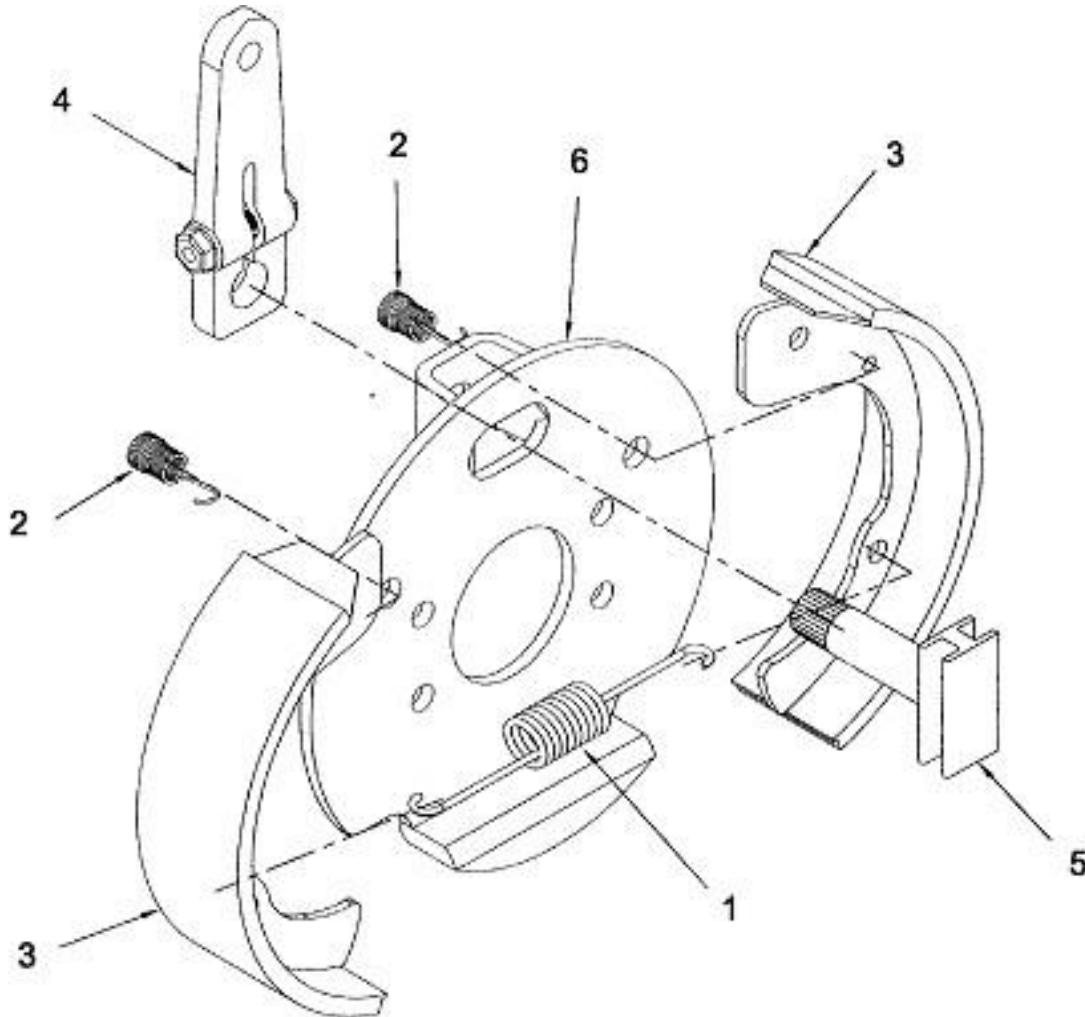

FIGURE 18 - Brake Shoe Replacement
3. Refer to figure 18 and measure the length of each tie rod from the center pin to the removable pin at each wheel (A and B). The tie rods must be equal in length. If the tie rods are not equal in length, loosen the jam nuts and adjust the length to equalize the tie rods. If tie rods are equal in length, proceed to next step.
9.18.3 Brake Shoe Replacement (FIGURE 18)